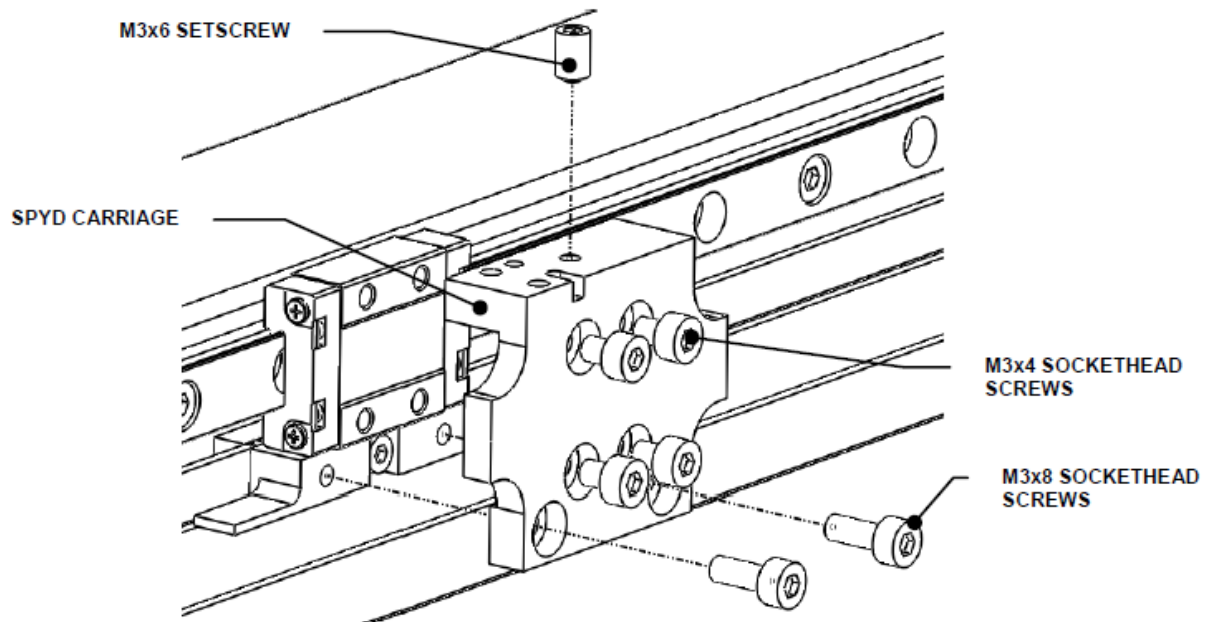

Figure T-10: Removing the Sample Pipettor Y Drive Carriage
3. Remove the Sample Pipettor Y Drive Carriage by unscrewing the four socket head screws and the set screw (Figure T-10)
3. Loosely mount a Sample Pipettor Y Drive Belt Carriage on the bearing block using four M3x4 Socket Head Cap Screws and Loctite 222 (Figure T-10).